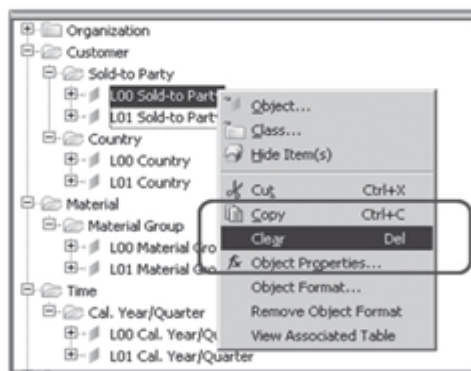

Figure 13.12 Remove Unwanted Elements from Universe Definition
1. **Remove unwanted L00 dimension nodes:** As discussed earlier, the L00 nodes are useful only when there is hierarchy-based reporting with unassigned members included in the root node of the hierarchy. To remove this from the universe definition, right-click on the L00 dimension node, and select CLEAR (Figure 13.12).